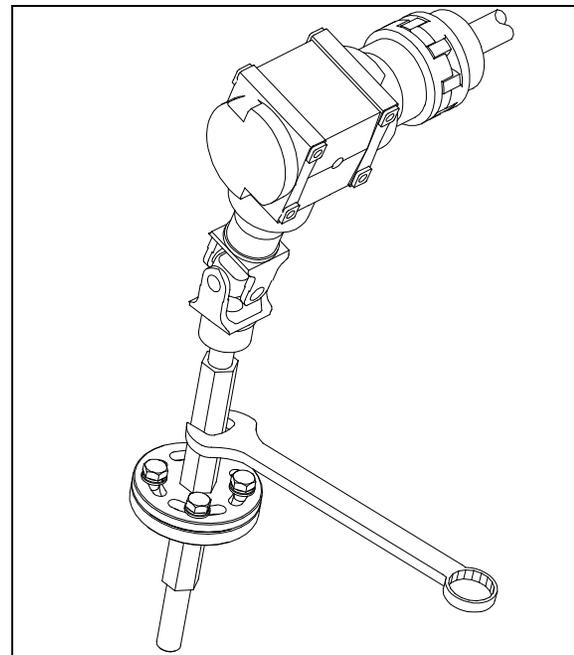

FIGURE 22 : FRONT SLIDE-OUT ADJUSTABLE SHAFT ASSEMBLY
2. Make sure the adjustable shaft assembly is tightened (refer to figure 22).
7. Operate the slide-out and check if the exterior panels of the slide-out are parallel with the vehicle panels. If not, rotate the upper part of the adjustable shaft assembly as required to obtain proper alignment (refer to figure 22).